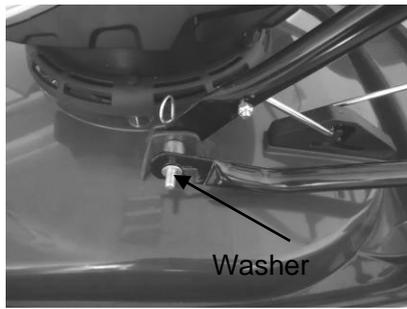
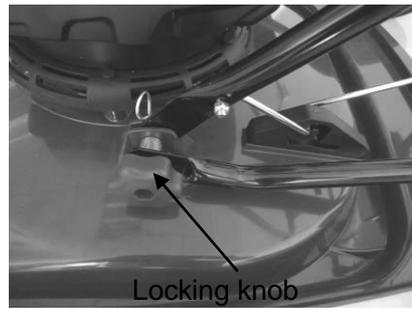

Fig.3B
Fig.3C
2. Fix the wheel frame into the unit body with the bolts, washers and locking knobs (Fig.3B/Fig.3C)